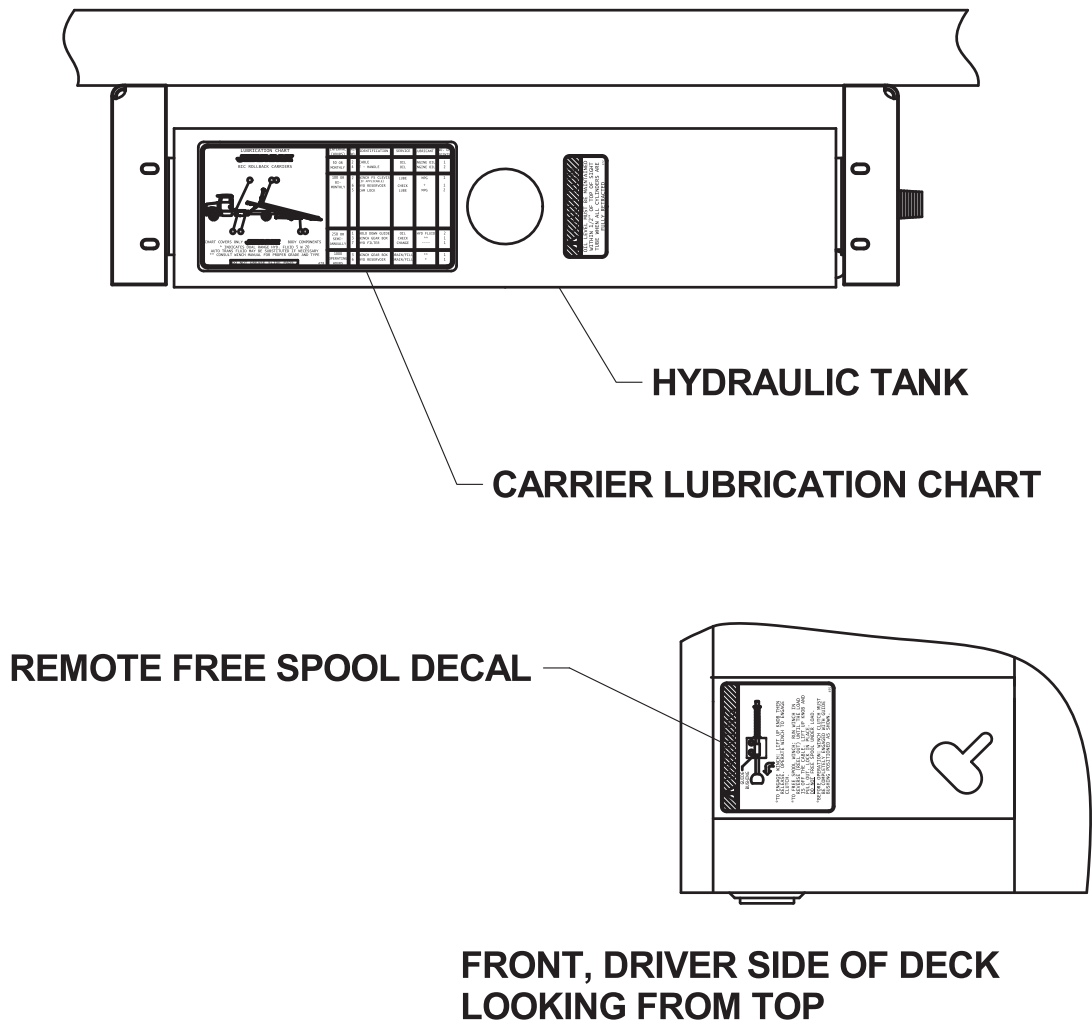

Figure 17 - Decal Relocation
1. Install the carrier Lube Chart decal on the hydraulic tank. See Figure 17.
2. Install the Free Spool Operation decal on the deck headboard mounting plate. See Figure 17.